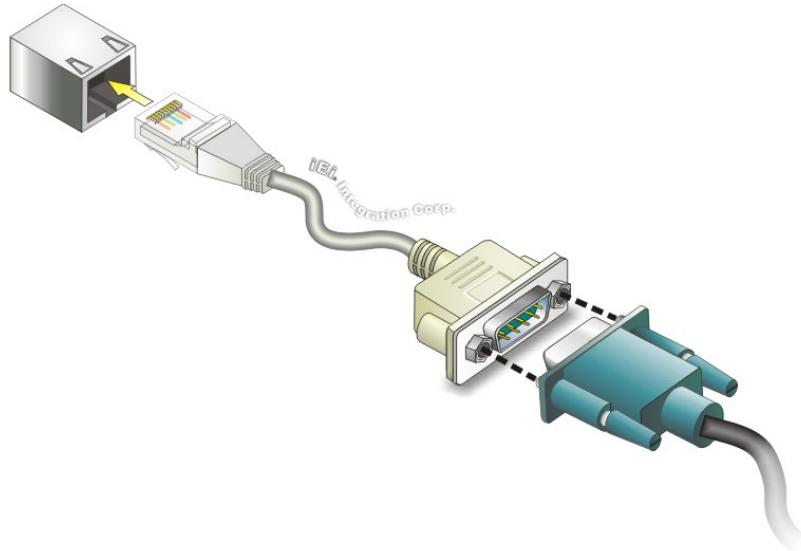

Figure 3-17: RJ-45 RS-232 Serial Device Connection
Step 2: Insert the RJ-45 connector. Insert the RJ-45 connector on the RJ-45 to DB-9 COM port cable to one of the RJ-45 RS-232 connectors on the TANK-871-Q170 series. See **Figure 3-17**.